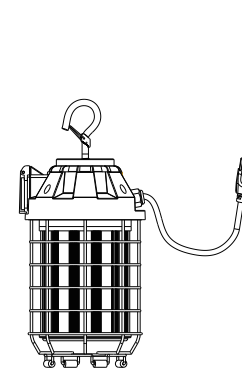

Figure 1
1. Screw the hook into lamp base. (Figure 1)